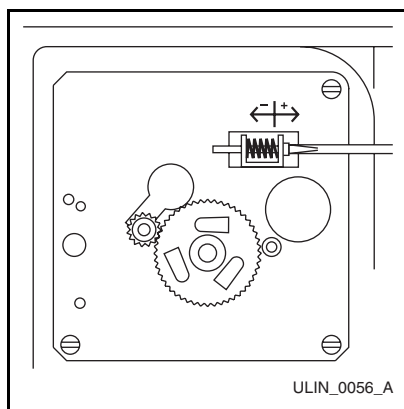

Figure 12
2. Locate the adjusting screw on the ice maker assembly control box. The adjusting screw is just below the minus (-) and plus (+) signs on the control box (**Figure 12**).